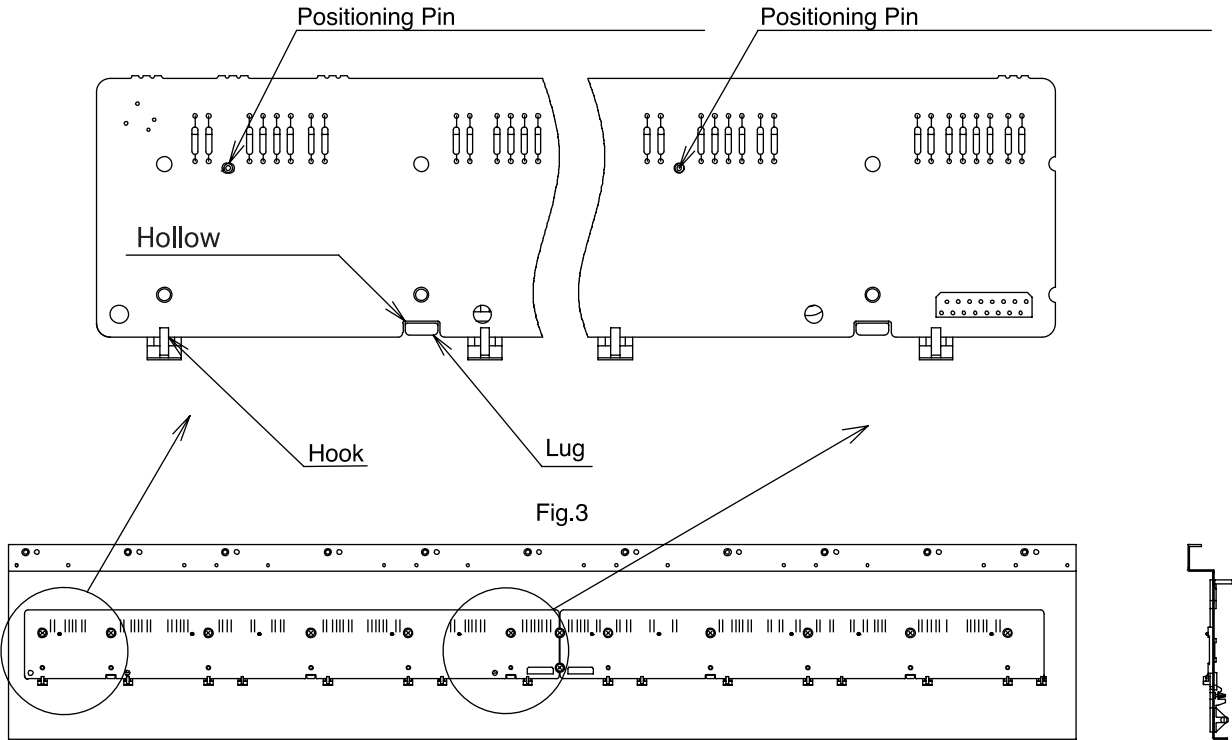

Fig.4
- Aligning the cutouts in the PWB with the lugs on the chassis, put one side of the PCB into the chassis hooks. Place the PCB on the Chassis so that the chassis positioning pins fit into the positioning holes. (See fig.3) At this point, the chassis positioning reference pin should first be fitted into the hole. There are two PCBs, LOW and HI, as shown in fig.4. The Chassis positioning reference pins are located near the connector each of the LOW and HI PCBs.